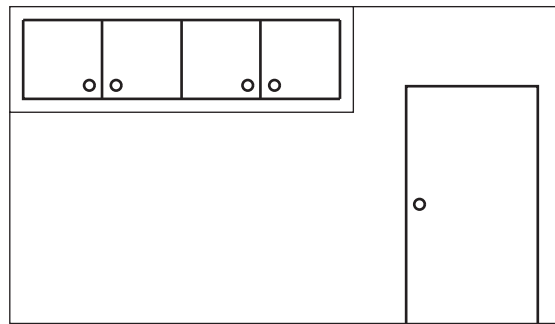

Fig. 11-5
1. Set the elapsed timer to **ON**. Complete the design shown in Fig. 11-5 for an over-the-hood storage area for a garage. Use ortho to keep the lines perfectly horizontal and vertical. When you have completed the drawing, set the elapsed timer to **OFF** and write down the total time it took you to complete the drawing.